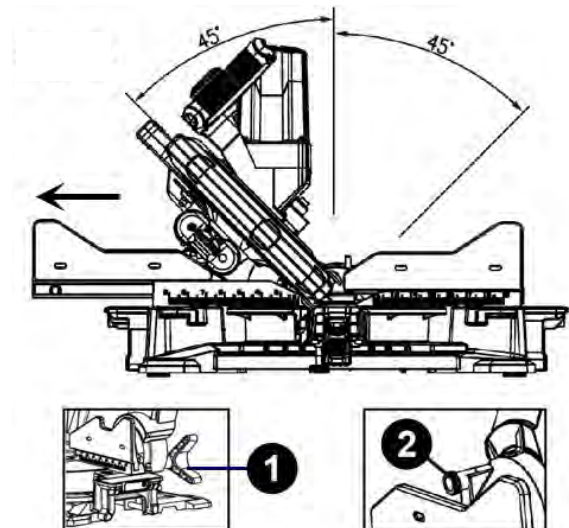

Fig. 13: Adjusting the tilt angle
If a bevel cut is required, loosen the bevel cut locking knob (Item 1, Fig. 13) by turning it counterclockwise.
Step 1: Pull the stop pin (Pos. 2, Fig. 13) out of here.